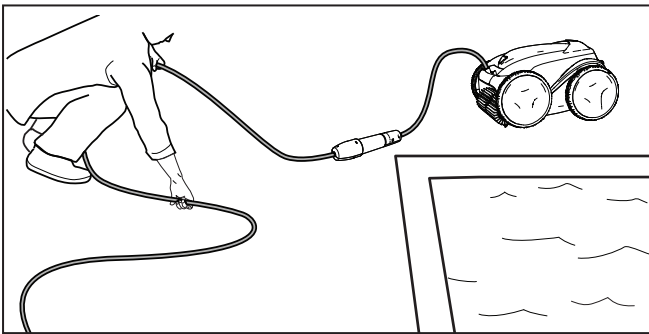

Figure 23. Untangle the Floating Cable
2. Remove the cleaner from the pool and untangle all kinks and coils in the floating cable starting at the cleaner head (Figure 23).